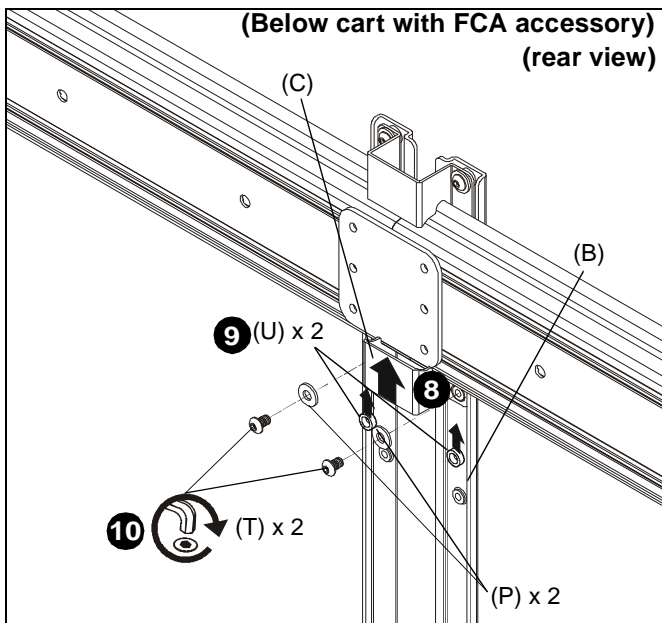

Figure 12
8. Slide second support bracket (C) underneath cart mount head assembly, lining up holes on support bracket (C) to holes on main bracket (B). (See Figure 12)
9. Slide two 3/5" spacers (U) in between support bracket (C) and main bracket (B). (See Figure 12)
10. Use two 1/4-20 x 7/16" button head cap screws (T) and two large washers (P) to secure support bracket (C) to main bracket (B). (See Figure 12)